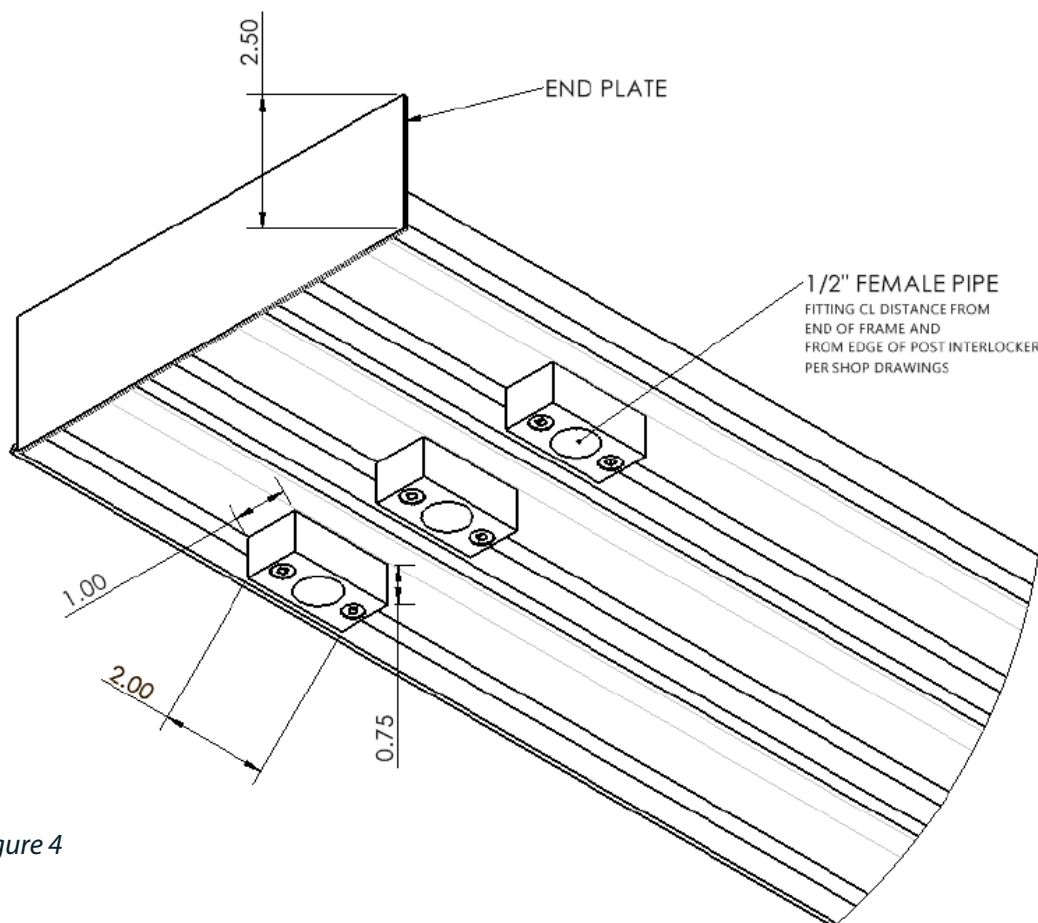

Figure 4
- Bottom Drain Fitting Sill (See **Figure 4**)
**NOTE: pocketing doors should not have drain fittings or weeps located in the pocket area of the sill. Be sure to leave adequate clearance for a drain line and fitting for each track. See Figure 4.**